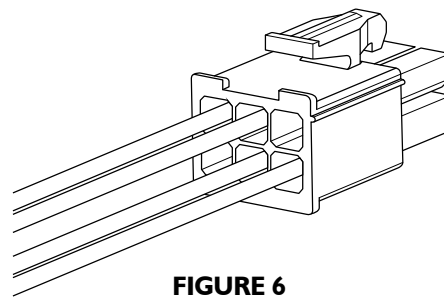

FIGURE 6
6. Install the supplied Red 6 Pin Connector to the pin side of the light cable (**Figure 6**):